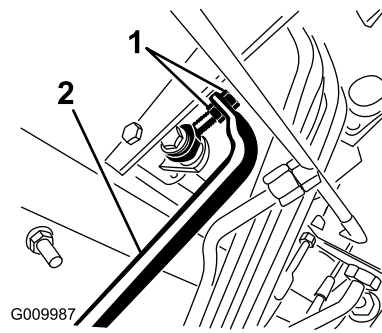

Figure 75
5. Adjust the jam nuts on the pump rod end to move the pump control tube forward to eliminate forward creep or rearward to eliminate rearward creep (Figure 75).